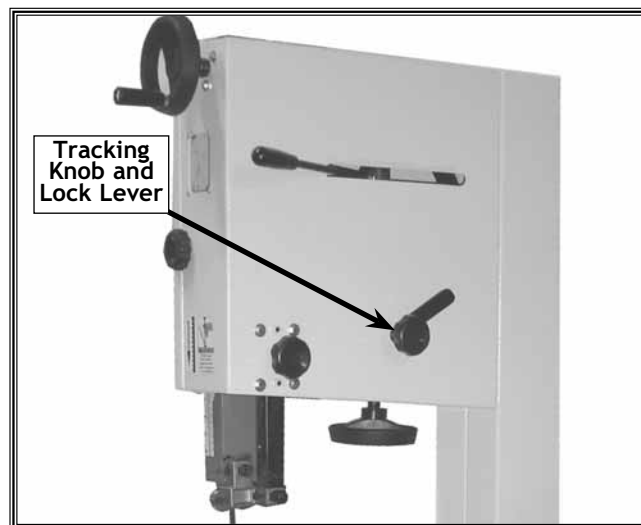

Figure 13. Tracking control knob.
3. Loosen the blade-tension lever slightly so the upper wheel has in-and-out play at the top, and unlock the tracking knob lock lever a few turns. See **Figure 13**.